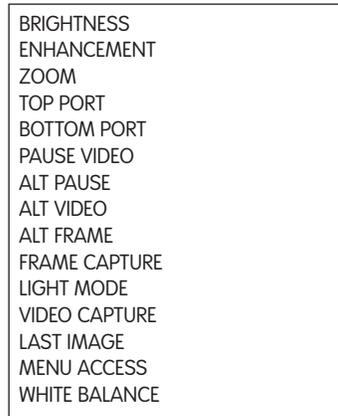

Figure 38. Up and Down buttons
4. Use the **Up** and **Down** buttons on the control unit or the right and left buttons on the Camera Head to scroll through the list of options (Figure 38). Press **Select** to select the setting for that button press.